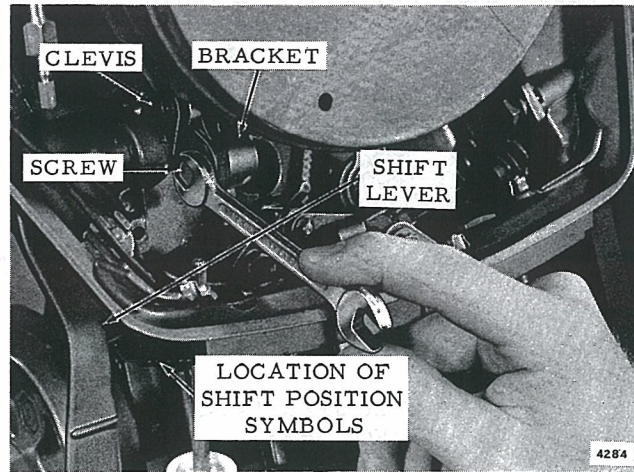

Figure 6-22. Shift Lever Adjustment
a. Place shift lever in reverse position. Loosen screw attaching shift rod clevis to shift shaft bracket. See Figure 6-22. Move shift linkage by hand to be sure detent spring has engaged the shift rod all the way. Adjust shift lever to register at the reverse symbol but leave a 1/8 inch clearance between the lever and the cover assembly.